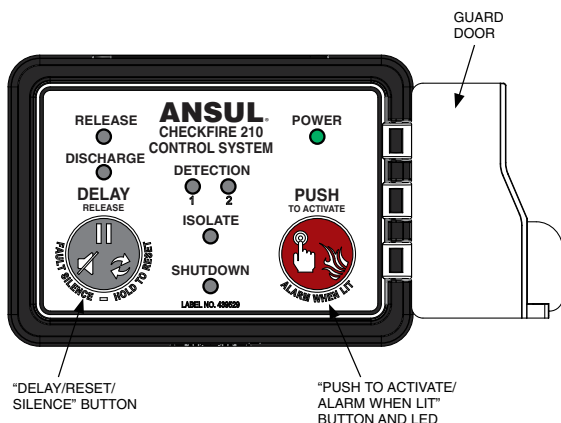

Figure 2-7-4 CHECKFIRE 210 ICM
The operator may activate the system by pressing the red button on the CHECKFIRE 210 ICM located to the right of the steering column, mounted to the right hand wall of the cab (see Figure 2-7-2 and Figure 2-7-4).
1. Swing the guard door open, press the red “Push to Activate” button on the CHECKFIRE 210 ICM and then LEAVE THE VEHICLE (see Figure 2-7-4). Fire retardant will be released, the engine will shut down, and the batteries will be disconnected from the electrical system.